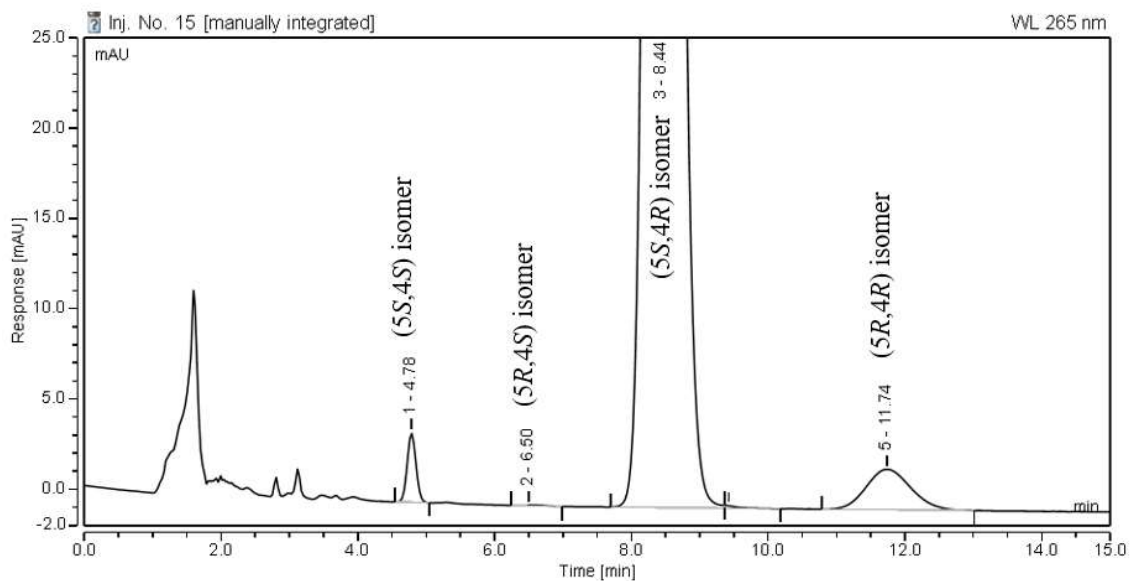

Fig 4 Typical chromatogram of Isocycloseram WP according to **XXX/WP/(M)/2.2**
2.2 HPLC. As for technical XXX/TC/(M)/2.2 and Fig 4., except: